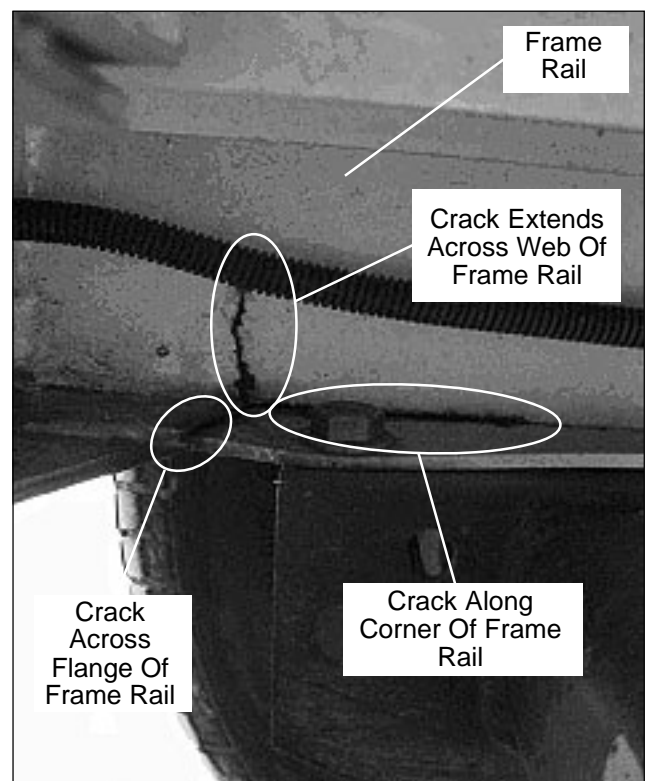

Figure 5 — Cracks Across The Web Of The Frame
6. If there is a crack in the frame and it extends only across the flange of the frame rail and NOT across the web or along the corner of the frame rail (refer to Figure 5), the chipper can continue to be used, but a Frame Reinforcement Kit must be installed. The frame must be inspected at the beginning of each shift for growth of the crack. If the crack extends through the smaller (outer) flange of the mounting completely away from the axle tube, take the unit out of service immediately. To return the unit to service temporarily, the cracks may be welded closed by a qualified welder. Daily inspections of this area must continue until Altec has made the final repair.